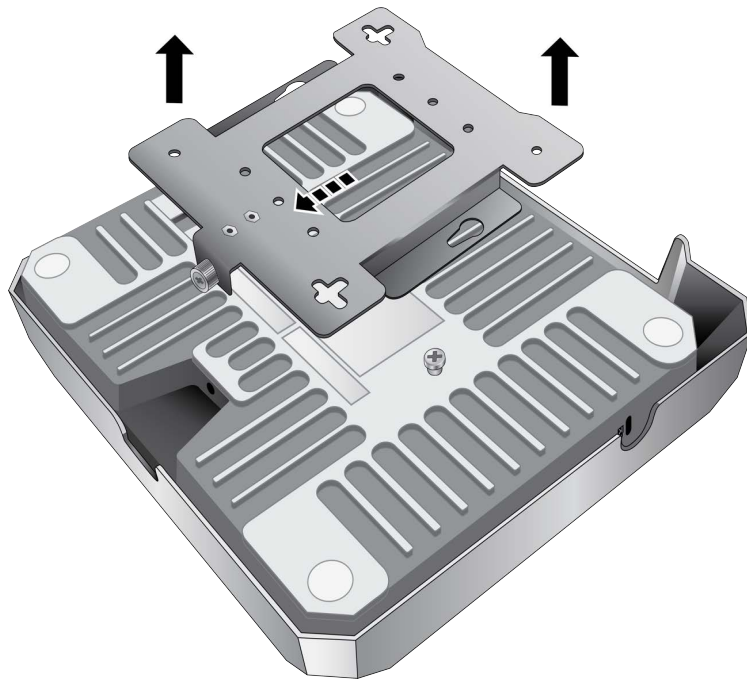

Figure 14. Removing the Mounting Bracket from the Access Point
4. Slide the mounting bracket forward and remove it from the access point. See Figure 14.